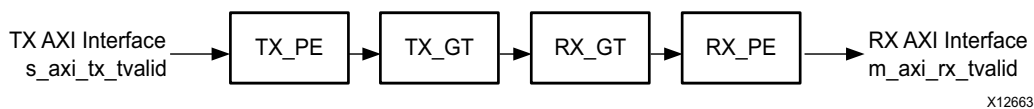

Figure 2-2: Latency of the Datapath
Figure 2-2 illustrates the latency of the datapath.
**Note:** Figure 2-2 does not include the latency incurred due to the length of the serial connection between each side of the Aurora 64B/66B channel.